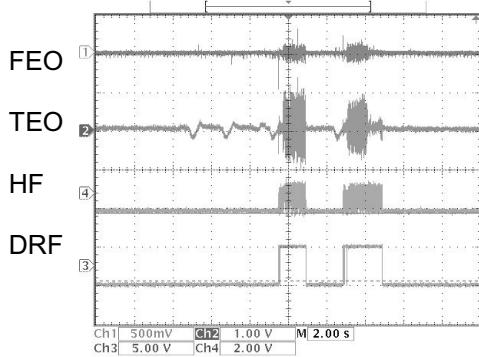

Fig. 2 DISC discrimination, adjustment
(1) DISC discrimination, adjustment
- * “06 Adj” is displayed, and discrimination of DISC size 8 cm/12 cm, discrimination of DISC reflectance (CD, CD-R/CD-RW), adjustment of focus, tracking offset, and EF balance will be performed. (Adjusted values are not displayed: Refer to Fig. 2, 3)